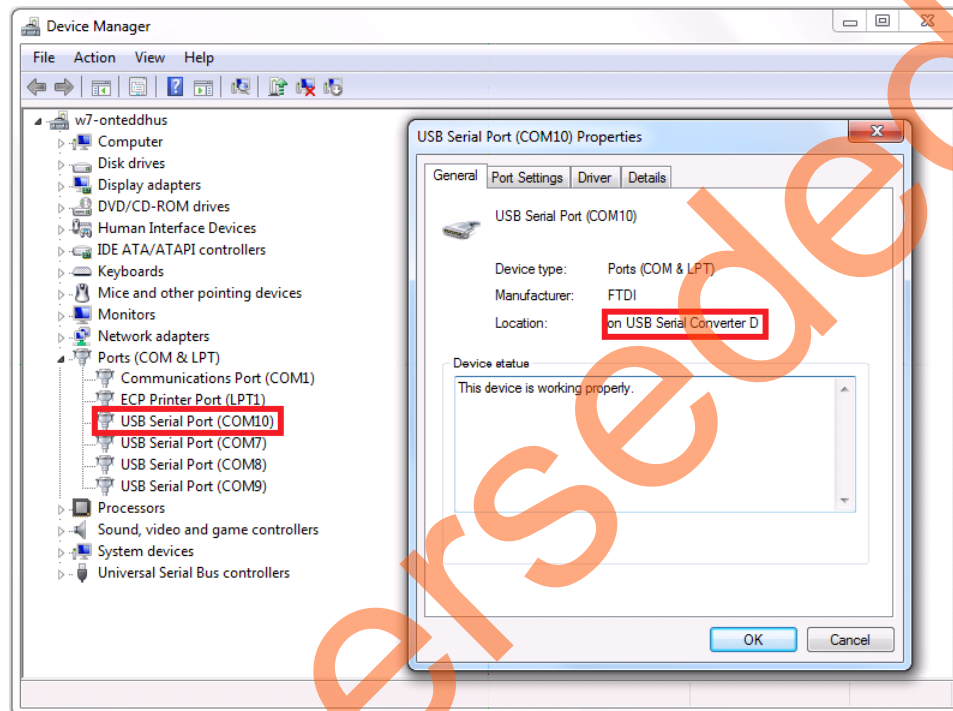

Figure 38 • Device Manager Window
2. Connect the host PC to the **J18** connector using the USB Mini-B cable. The USB to UART bridge drivers are automatically detected. From the four COM ports, select the one with Location as **on USB Serial Converter D**. Figure 38 shows an example **Device Manager** window.